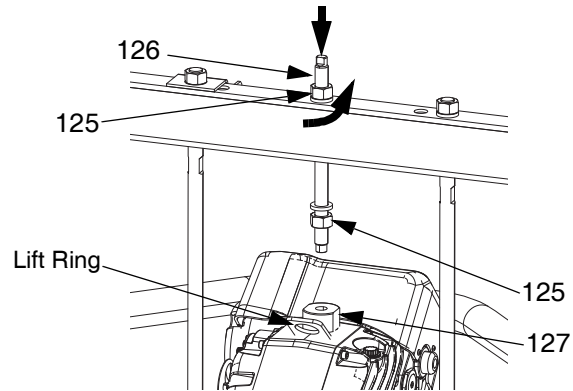

FIG. 48: 55 Gallon Platen
5. Disconnect Driver (AB):
- a. *D200 3 in. and D200s 6.5 in. ram supply units:* Attach a secure hoist to the driver lift ring. Loosen nut (125) below crossbar. Use wrench to hold lift ring adapter (127) in place and loosen threaded rod (126) above crossbar with another wrench. See FIG. 48.